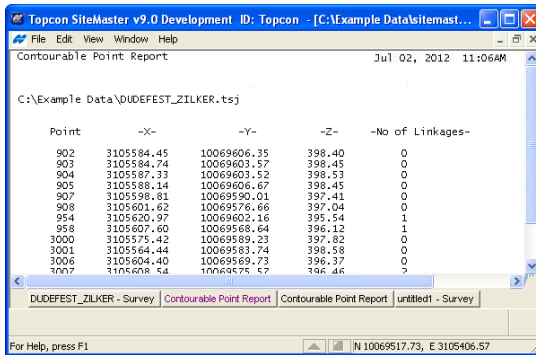

Figure 14-75. The Contourable Point Report
2. Press **Yes** to display the **Contourable Point Report** (Figure 14-75).